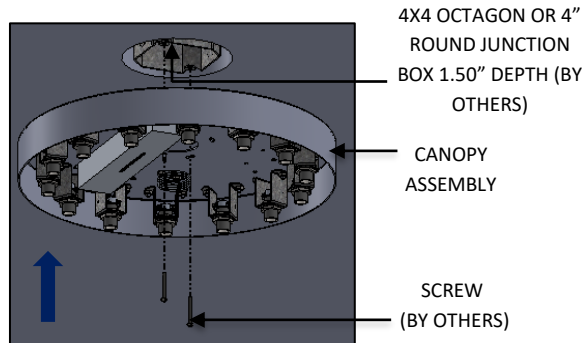

FIG. 8 – CANOPY ASSEMBLY
2. Attach CANOPY to JUNCTION BOX (by other) with screws provided (by others) as shown below in FIG. 8.